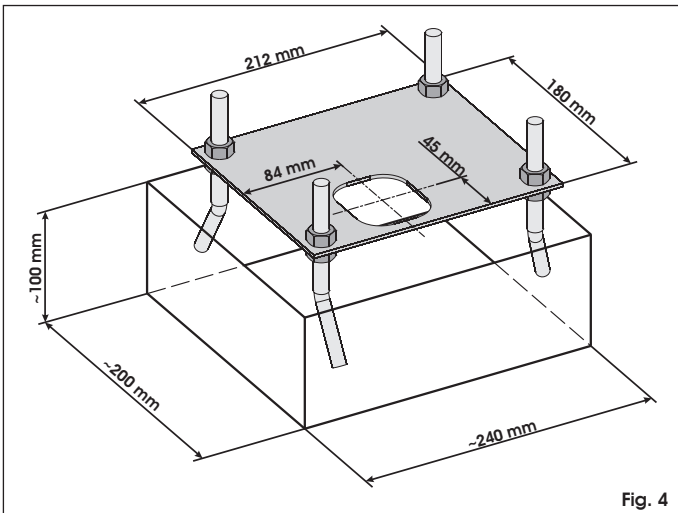
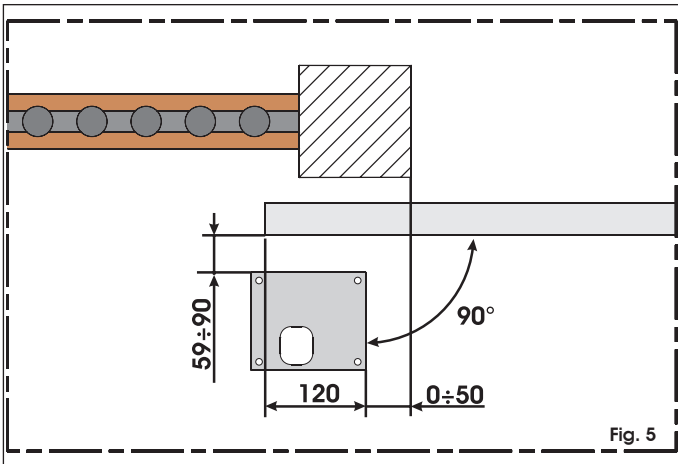
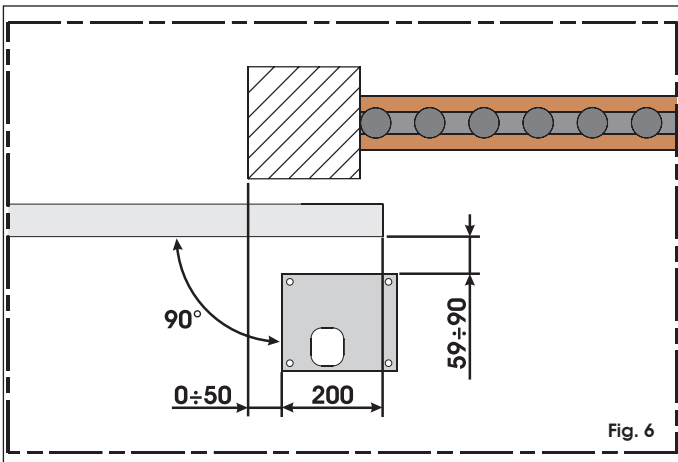

Fig. 4
Fig. 5
Fig. 6
2. Dig a cavity for the foundation plate as shown in Fig. 4. The foundation plate must be located as shown in Fig. 5 (right closing) or Fig.6 (left closing) to ensure correct meshing between rack and pinion.
2) The operator is supplied for installation with the gate closing on the right of the operator (looking from the inside) (fig. 5). If you require left-hand closure, change over the connection of the cables connected to the terminals of the motor.